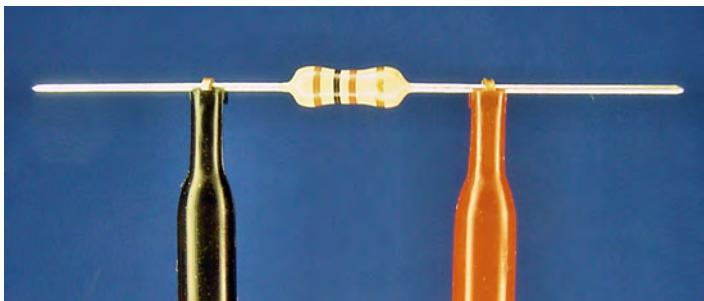

Figure 9-6. Hook test probe adaptors holding a 100Ω resistor
6. Touch or connect the black probe tip to one end wire of the resistor (see Figure 9-6). It doesn't matter which ends you choose.
3. Hook up the $470\ \Omega$ resistor as you did the $100\ \Omega$ resistor (refer back to Figure 9-6).